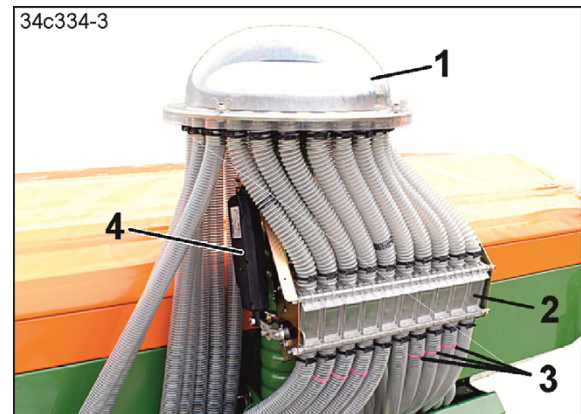

Fig. 48
In the distributor head (Fig. 48/1), the metered material is distributed evenly over all of the connected seed lines and delivered to the coulters.
- the flaps in the flap box (Fig. 48/2) interrupt the seed supply to the seed lines (Fig. 48/3) of the tramline coulters. An electric motor (Fig. 48/4) actuates the flaps.